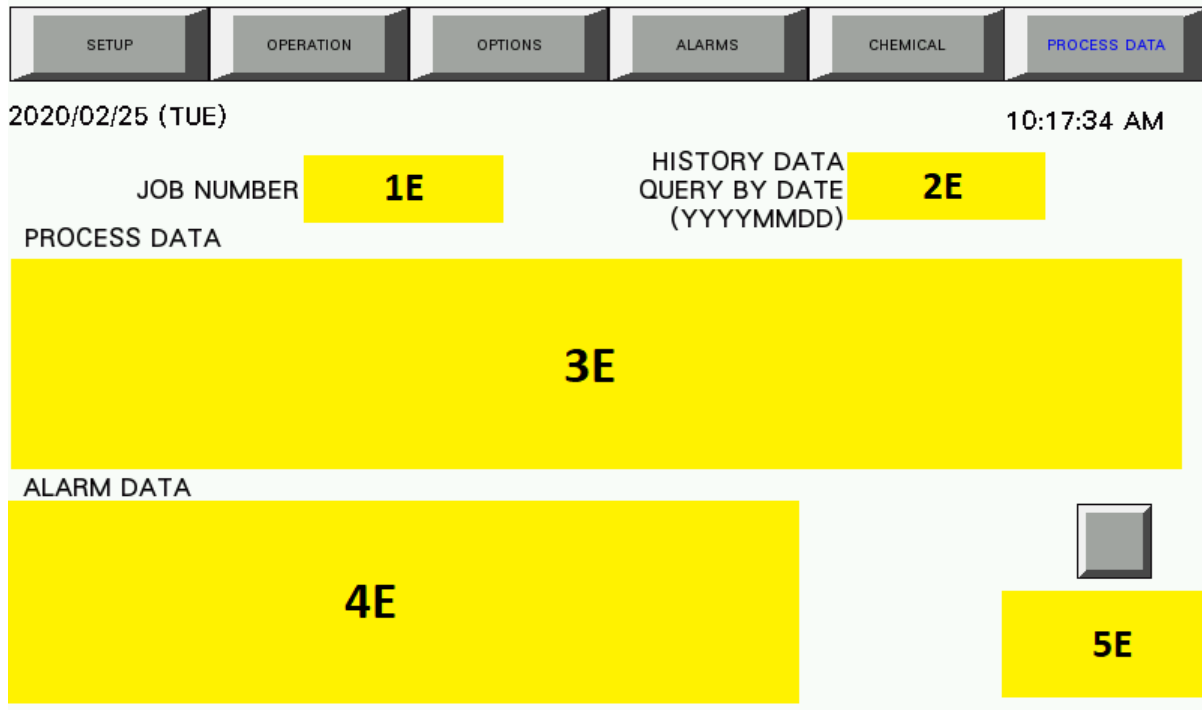

Figure 11: HMI Process Menu
1. Push the "USB EJECT" button (Item 5E, Figure 11) in the PROCESS DATA menu so it reads "REMOVE USB".